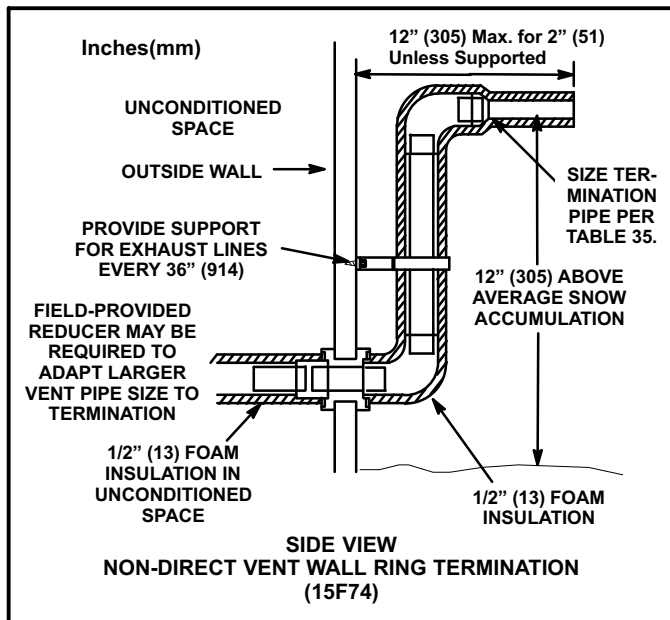

FIGURE 40
3. If exhaust piping must be run up a side wall to position above snow accumulation or other obstructions, piping must be supported every 3 feet (.9m) as shown in figure 21. Refer to figure 40 for proper piping method. When exhaust piping must be run up an outside wall, any reduction in exhaust pipe size must be done after the final elbow.